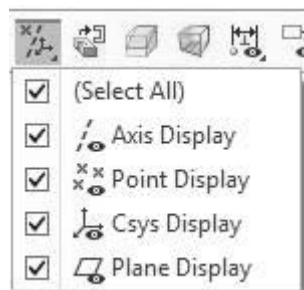

Figure 3-14 Datum DisplayControl
**Datum Display Filter**—Allows the user to control the display of datum axes, datum points, datum coordinate systems, and datum planes. See Figure 3-14.